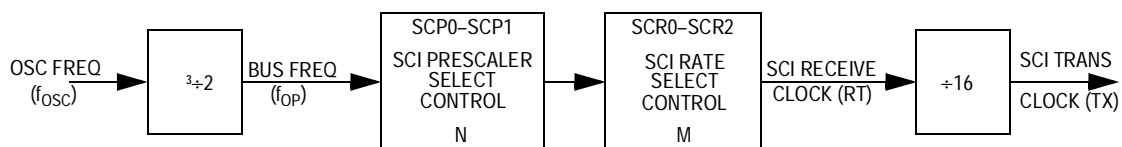

Figure 9-2. Rate Generator Division
register is synchronized with the bit rate clock (see Figure 9-2). All data is transmitted least significant bit first. Upon completion of data transmission, the transmission complete flag (TC) in the SCSR is set (provided no pending data, preamble, or break is to be sent) and an interrupt is generated (if the transmit complete interrupt is enabled). If the transmitter is disabled, and the data, preamble, or break (in the transmit data shift register) has been sent, the TC bit will be set also. This will also generate an interrupt if the transmission complete interrupt enable bit (TCIE) is set. If the transmitter is disabled during a transmission, the character being transmitted will be completed before the transmitter gives up control of the TDO pin.